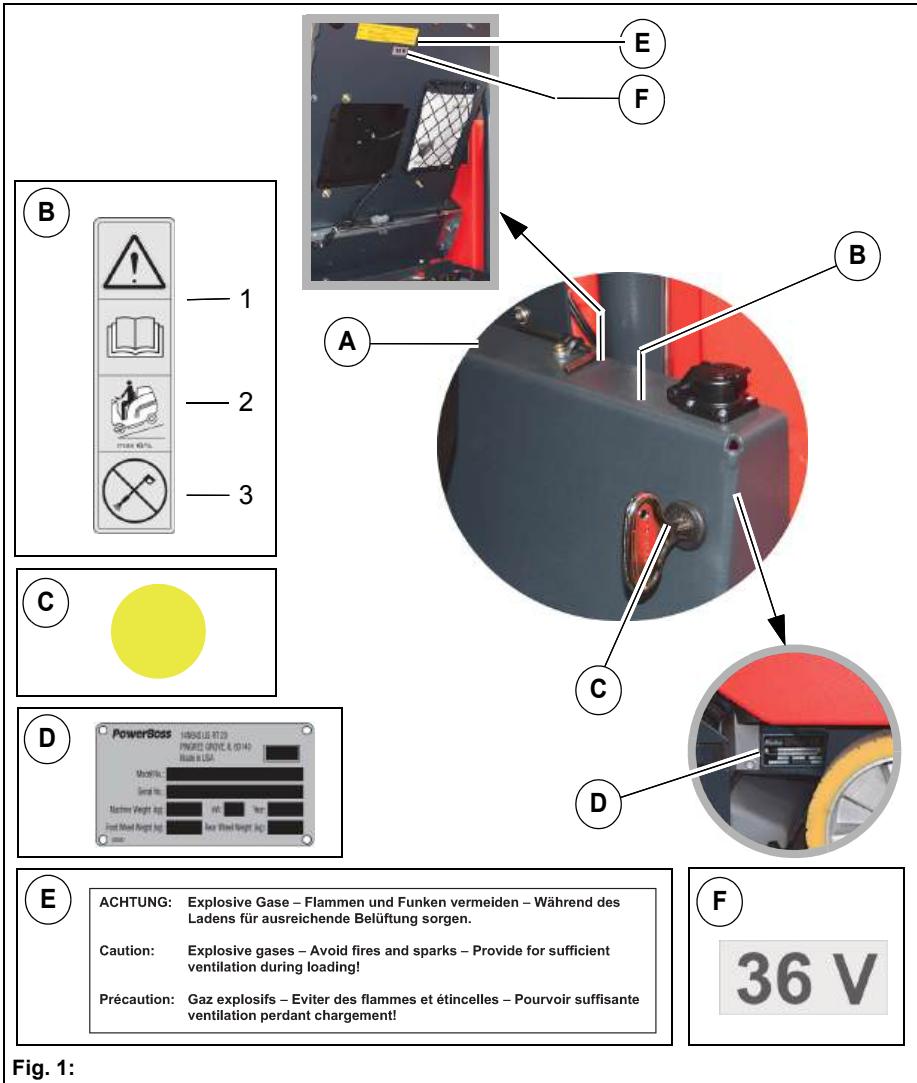
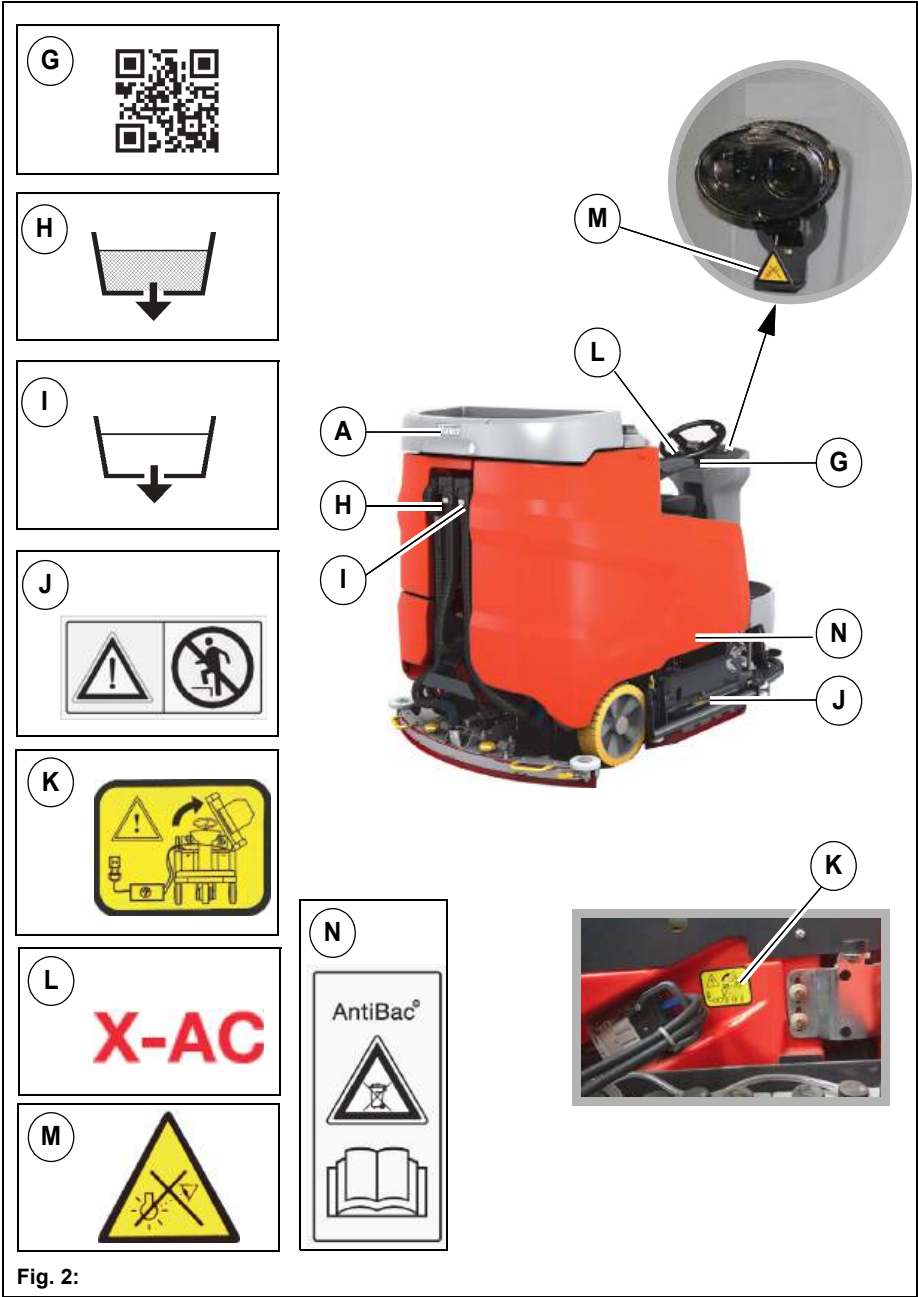

Fig. 1:
Fig. 2:
Label – Company logo Fig. 1/ Fig. 2-A
- **Read and observe the operating manual Fig. 1-B1**
- **Maximum permissible slope 6 % when cleaning Fig. 1-B2**
- **Never clean the machine with a high-pressure cleaner Fig. 1-B3**
Label – Maintenance parts (yellow dot) Fig. 2-C
Type plate Fig. 2-D
Label – Explosive gases Fig. 1-E
Label – 36 V Fig. 1-F
Label – QR code Fig. 2-G
Label – Drain waste water Fig. 2-H
Label – Drain fresh water Fig. 2-I
Label – Keep off! Fig. 2-J
Label – Leave seat console open during the charging procedure! Fig. 2-K
Label – X-AC-drive Fig. 2-L
Printing – Do not dispose of AntiBac® tanks in the domestic waste! Fig. 2-N